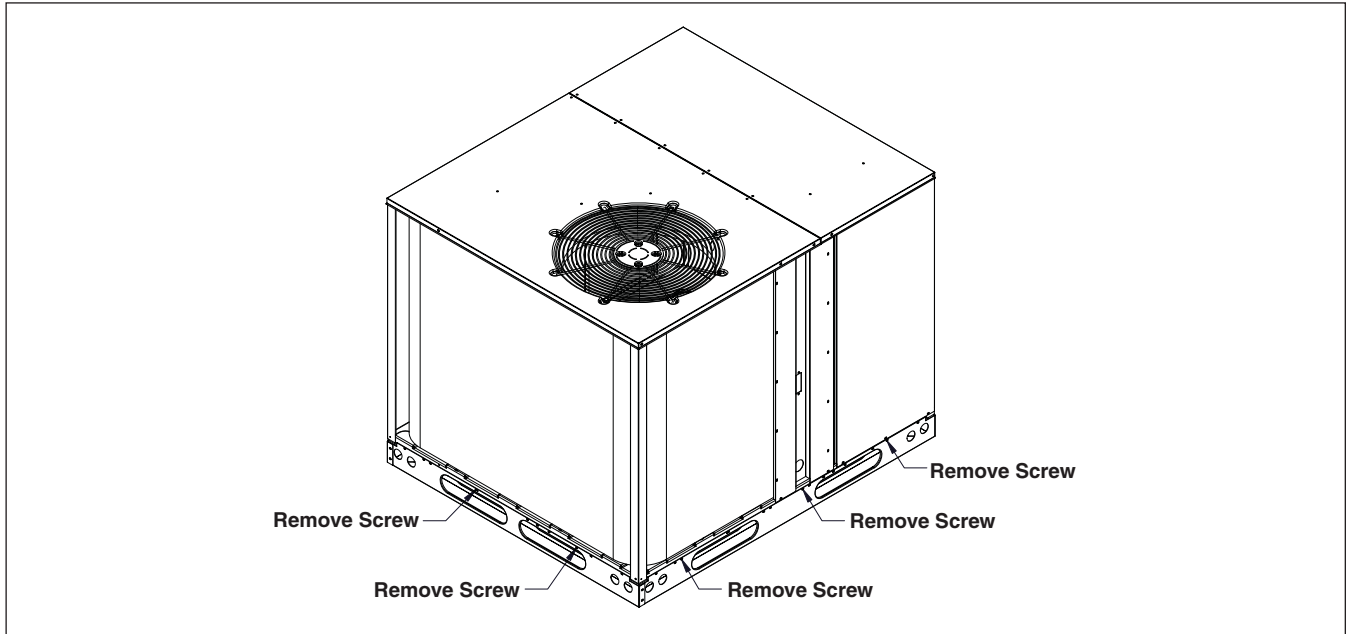
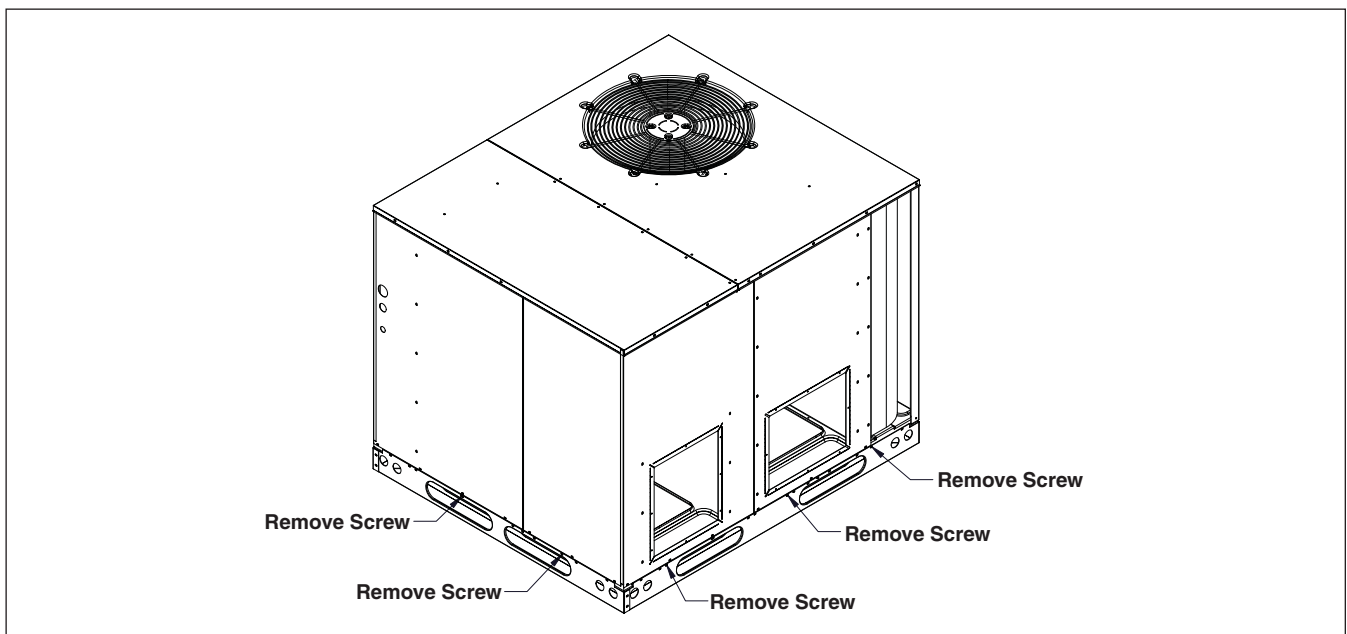

Figure 1a
Figure 1b
1. Remove only the three (3) sheet metal screws from the long base rails and only the two (2) sheet metal screws from the short base rails on each side which corresponds to the slotted holes in the rail covers. (See Figure 1a and Figure 1b below) Note the base rails will remain attached to the base pan with the screws you have not removed. **DO NOT DISCARD THE SCREWS REMOVED.** You will reuse eight (8) of these screws later in the corner flanges of the rail covers, see Step 6 below.